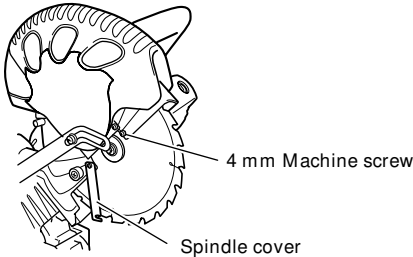
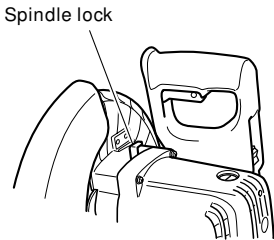
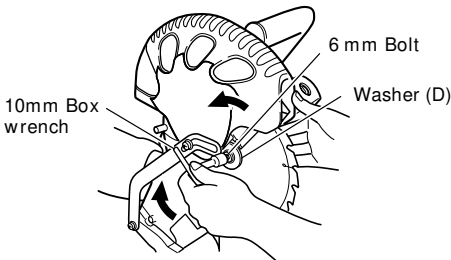
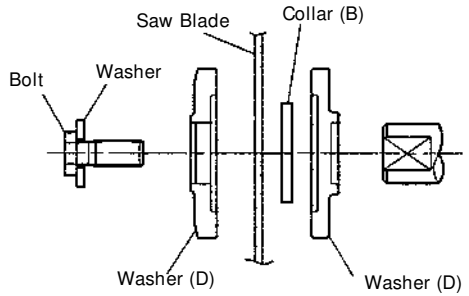

Fig. 22
Fig. 23
Fig. 24
Fig. 25
1. Mounting the saw blade (Fig. 22, Fig. 23, Fig. 24 and Fig. 25)
- (1) Rotate the lower guard (plastic) to the top position.
- (2) Use the driver to loosen the 4 mm screw fastening the spindle cover and then remove the spindle cover.
- (3) Press in spindle lock and loosen bolt with 10 mm box wrench (standard accessory). Since the bolt is left-hand threaded, loosen by turning it to the right as show in **Fig. 24**.
- (6) Thoroughly clean washer (D) and the bolt, and install them onto the saw blade spindle.
- (7) Press in the spindle lock and tighten the bolt by turning it to the left by standard accessories wrench (10 mm box wrench) as indicated in Fig. 24